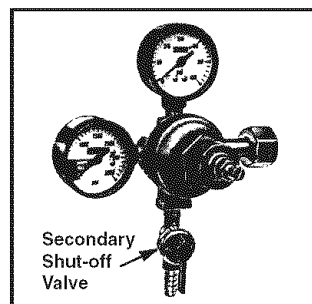

Fig. 10
18. Opening the CO₂ Cylinder Main Valve: Before opening the main valve located on top of the CO₂ cylinder. Make sure the "secondary" shut-off valve located on the lower stem pipe of the regulator is in the "closed" position. **See Fig. 10**